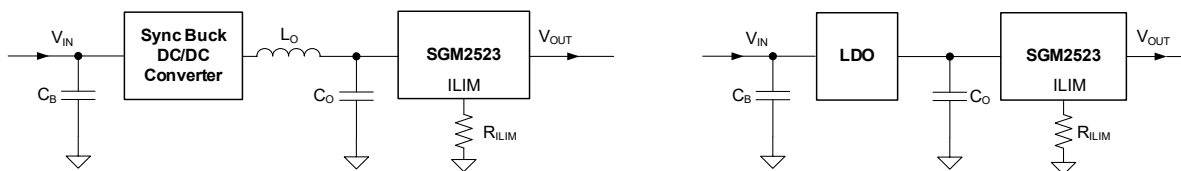

Figure 10. Precision Current Limit and Protection of Internal Rails
The safe operation of electrical and electronic equipment in dangerous area environment has a more and more urgent requirements for intensive safety (IS). IS requires that the total energy available during equipment operation is not enough to ignite the surrounding explosive environment by means of electric sparks or heat transfer. This requires precision current limits to ensure that the set current limits are not exceeded over a wide operating temperature range and variable environmental conditions. Applications such as gas analyzers, medical devices, portal industrial equipment, etc., need to meet these importance safety standards. As a simple over-voltage and over-load protection solution, SGM2523 is applicable to each power rail inside the system application. The typical implementation circuit of SGM2523 is shown in Figure 10.